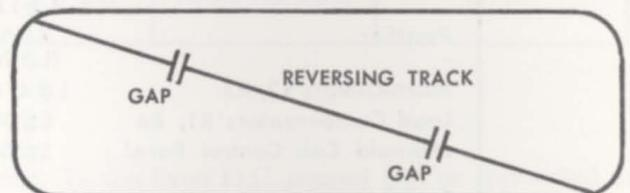

Fig. 6-4
2. Connect the two blue wires from the reversing switch to the turning track or reverse loop. This track must be insulated at both ends as in Fig. 6-4